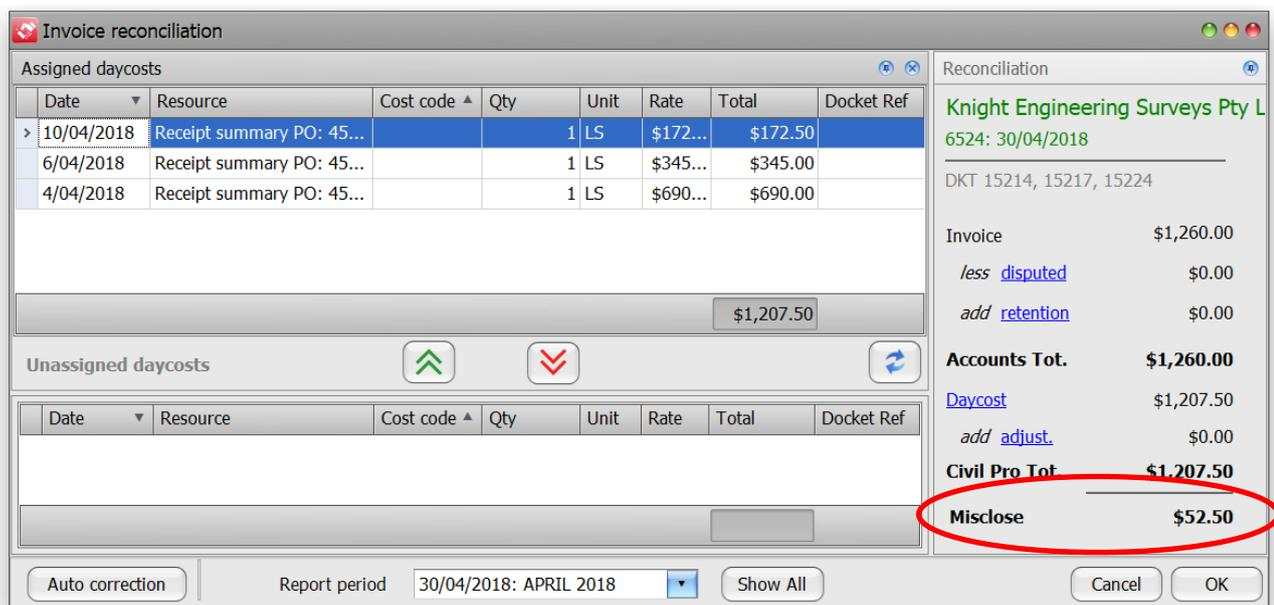

Figure 77 Invoice reconciliation with daycost showing a misclose
5. Now reconcile the invoice for Knight Engineering following the steps above. You will see to the right of the screen there is a misclose of \$52.50 (Figure 77)